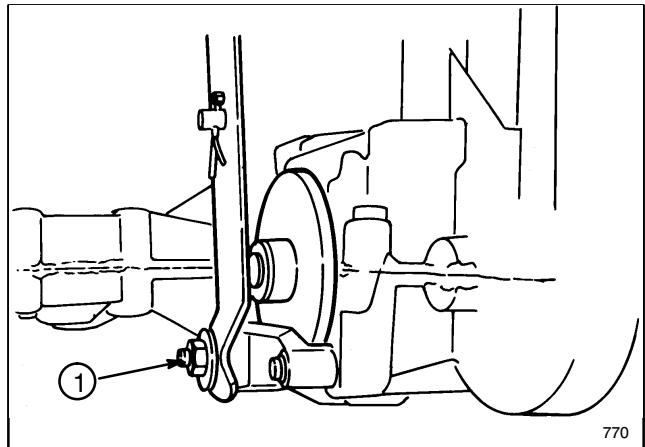

Figure 28
Adjust brake pucks if the parking brake does not hold or braking power is not sufficient when brake pedal is depressed. The brake is located on the left side of the transaxle (Fig. 28).
2. Tighten locknut approximately 1/4 turn clockwise (Fig. 28).